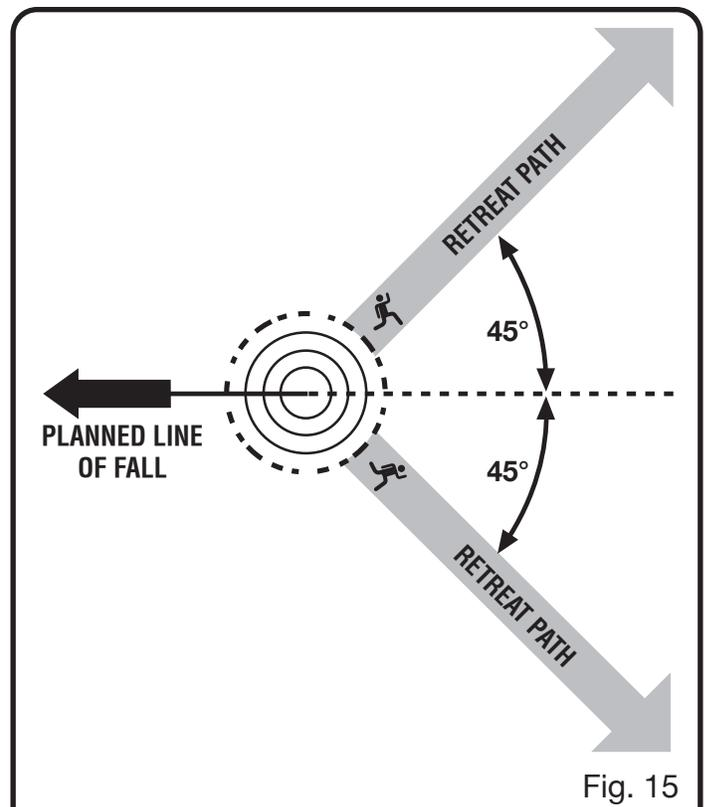

Fig. 15
See Figures 15 - 18.
- Before any cuts are started, pick your escape route (or routes in case the intended route is blocked); clear the immediate area around the tree and make sure there are no obstructions in your planned path of retreat. Clear paths of safe retreat should extend back and diagonally (45°) to the rear of the planned path of fall. When the tree begins to fall, you should retreat away from the direction of fall along a retreat path and at least 20 feet away from the trunk in case it kicks back over the stump. *See Figure 15.*